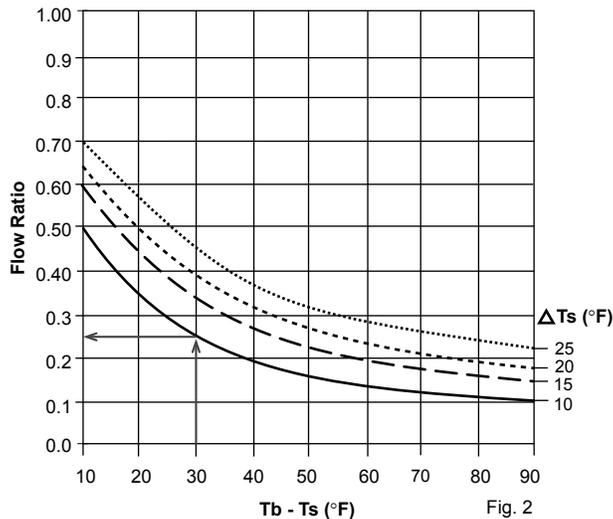

Fig. 2
- 3) Compute Tb - Ts. Look up the ratios in figure 2.